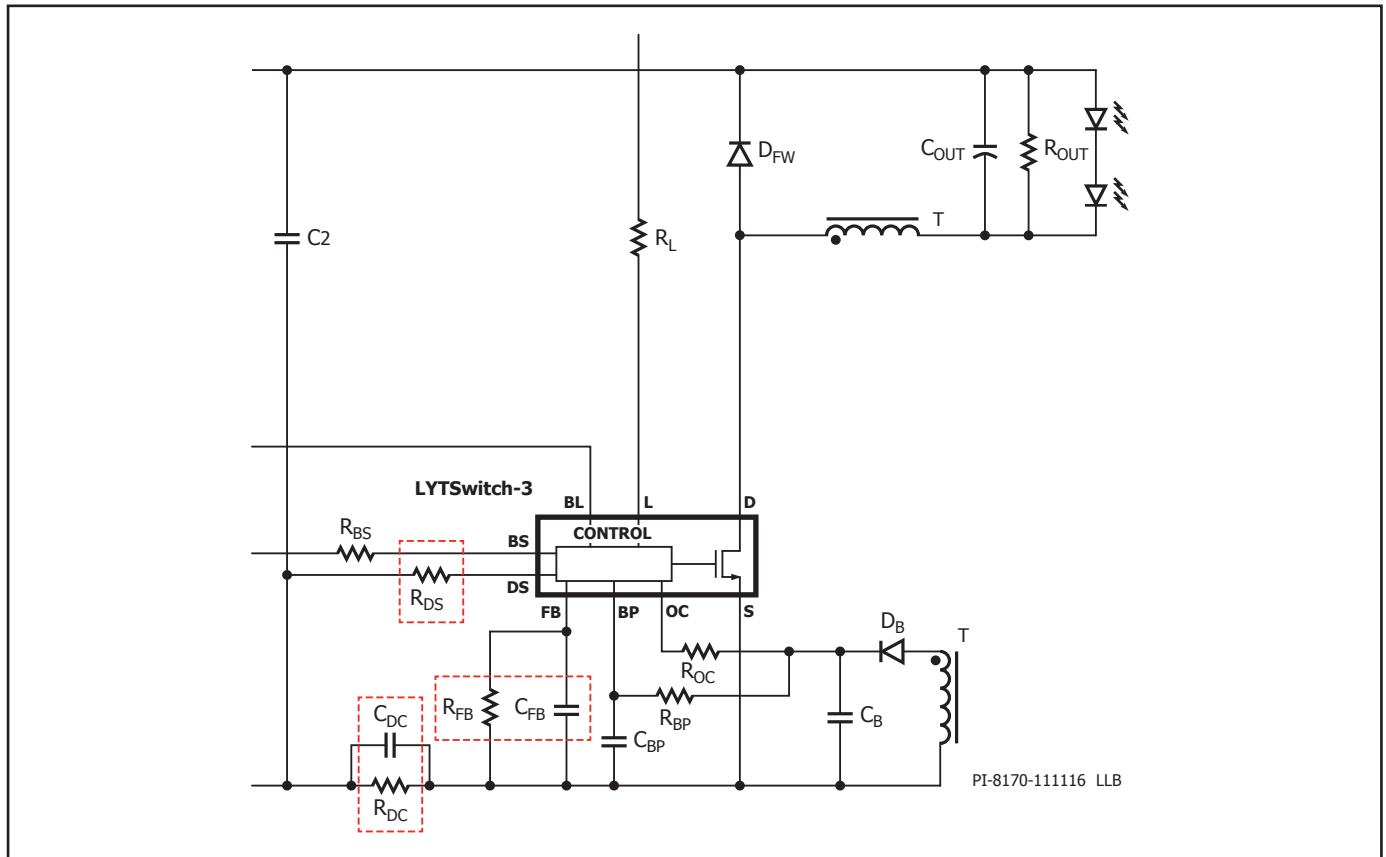
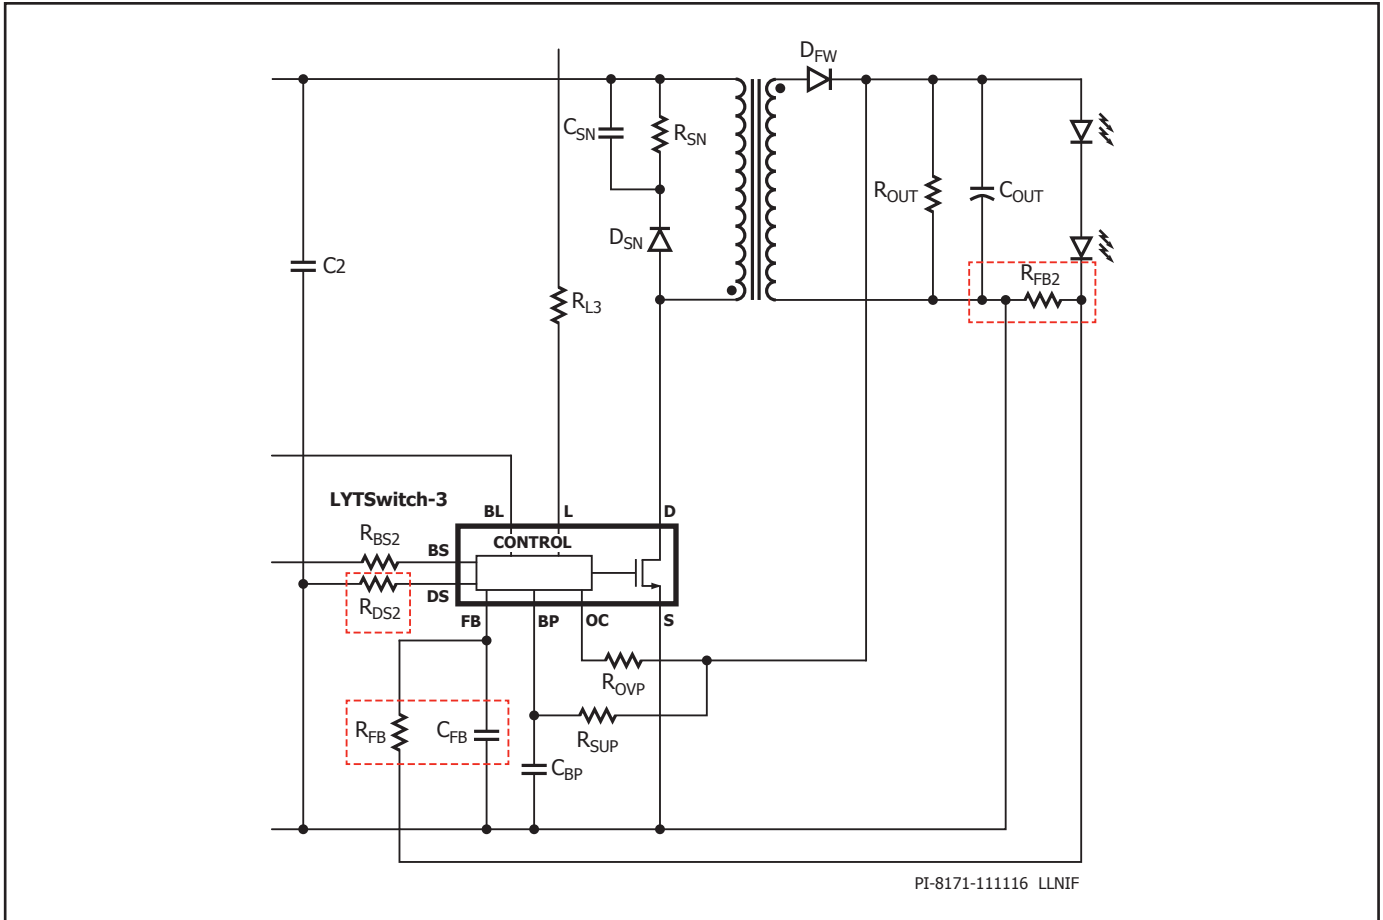

Figure 11. Schematic Shows R_{DS} , R_{DC} , R_{FB} and C_{FB} used for Indirect Sensing of Output Current with Buck Topology.
Figure 12. Schematic shows R_{DS} , R_{FB2} , R_{FB} and C_{FB} used for Direct Sensing of Output Current with Non-Isolated Flyback.
These are topology dependent and programmed through R_{DS} resistor value. With topologies where the output ground reference is not common with the input ground reference of the IC controller such as buck or isolated flyback, indirect current sensing (IPSR) is used, this will eliminate the need for a use of a complex optocoupler or a level shifter circuitry to detect the output current. The sensing is done via the R_{DC} sensing resistor where the signal is fed into the DRIVER CURRENT SENSE (DS) pin of the IC through the R_{DS} resistor. The signal is processed internally and the interpolated value is outputted to the FEEDBACK pin which is filtered by C_{FB} and R_{FB} (see Figure 11). The latter is used if the ground references are common between the input and output circuitry. With direct sensing (DSSR), the R_{DS} resistor is just simply connected to the SOURCE (S) pin and the FEEDBACK pin is used to sense directly the output current via R_{FB2} sense resistor connected in series with the load and a small low pass filter (R_{FB} and C_{FB}) is needed for the feedback signal (Figure 12).